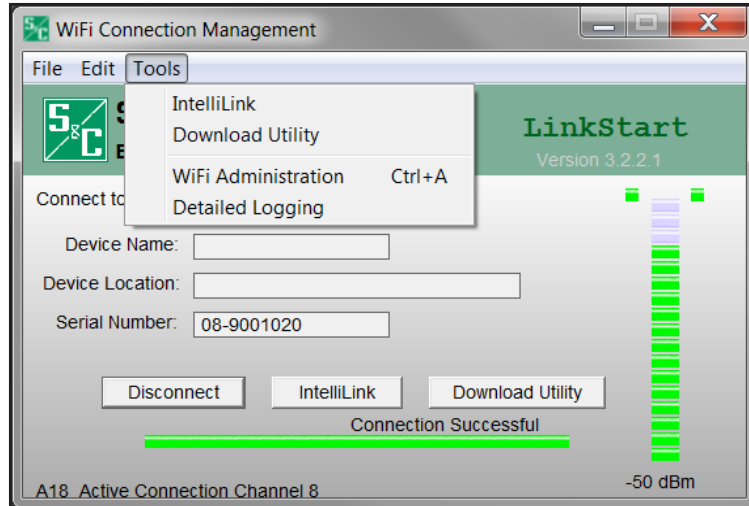

Figure 74. The *LinkStart Main* screen.
STEP 1. Sselect the **Tools** tab, and click on the **Wi-Fi Administration** option on the *LinkStart Main* screen. See Figure 74.